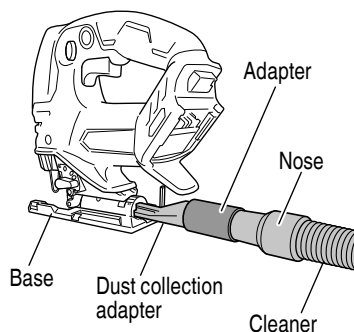

Fig. 35
By connecting with cleaner (sold separately) through dust collection adapter and adapter (sold separately), most of dust can be collected. (Fig. 35)
- (4) Connect the dust collection adapter with adapter. (Fig. 35)
- (5) Connect the adapter with the nose of cleaner. (Fig. 35)